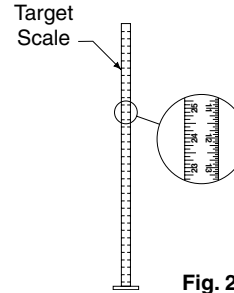
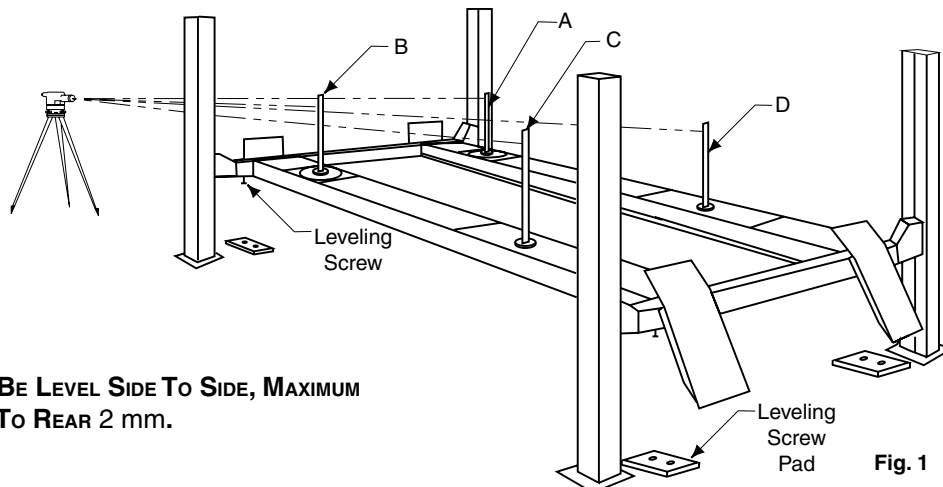

Fig. 2
Fig. 1
D. Beginning with "A" position, Fig. 1, sight the level to the target and mark the number or the graduation on the scale of the target that aligns to the crosshairs of the level, Fig. 2.
E. Next, move the target and place it on the turning radius gauge at point "B", Fig. 1.
G. Adjust the adjustment nut on the locking latch plate adjustment stud at the top of the column at "B", Fig. 1, by loosening the jam nut and turning adjustment nut until the crosshairs of level align to reference mark on the target scale.
I. Recheck the level of the runways to be sure all four locking latch bar are adjusted correctly. Start at point "A" and recheck level at points "B", "C" and "D", Fig. 1. Readjust, if needed.